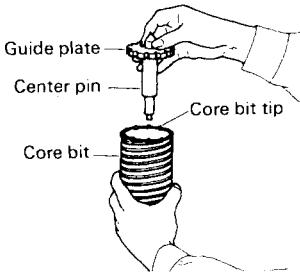

Fig. 14
- (4) Fit in the guide plate by aligning its concave portion with the core bit tip. When the position of the concave is shifted by turning the guide plate right or left, the guide plate never slips off even when the rotary hammer is used in a downward direction. (Fig. 14)